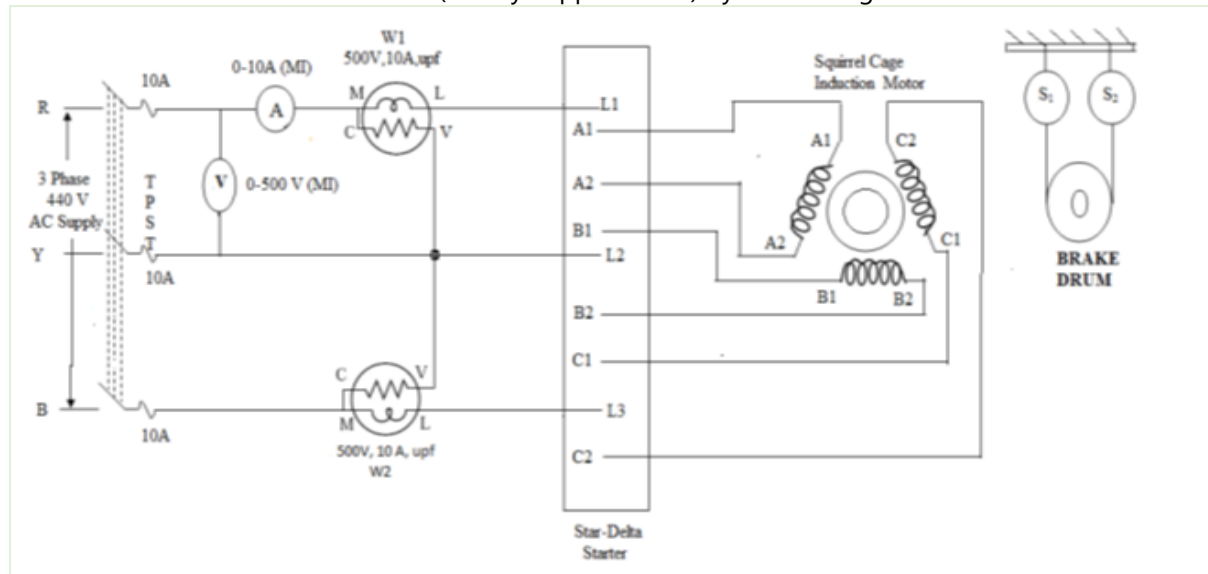

Figure 7 - BRAKE TEST ON THREE PHASE SQUIRREL CAGE INDUCTION MOTOR
1. Calculate the voltage, current and power values at no-load condition from Figure 7.